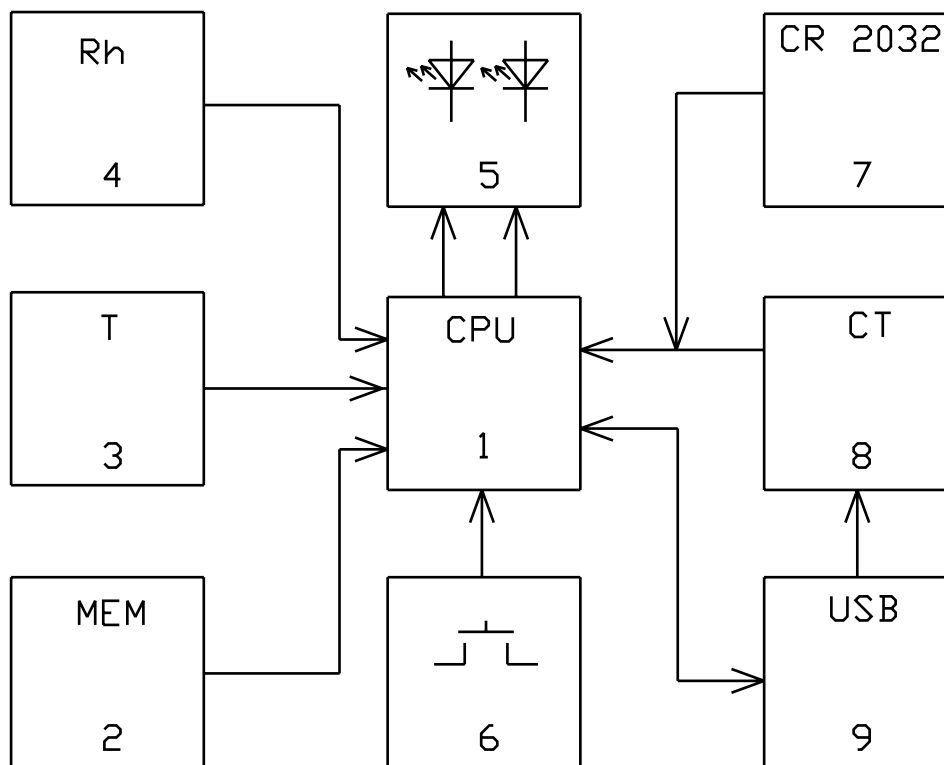

Figure 2. Data Logger block diagram.
1.5.3. The Data Logger block diagram is shown in Figure 2.